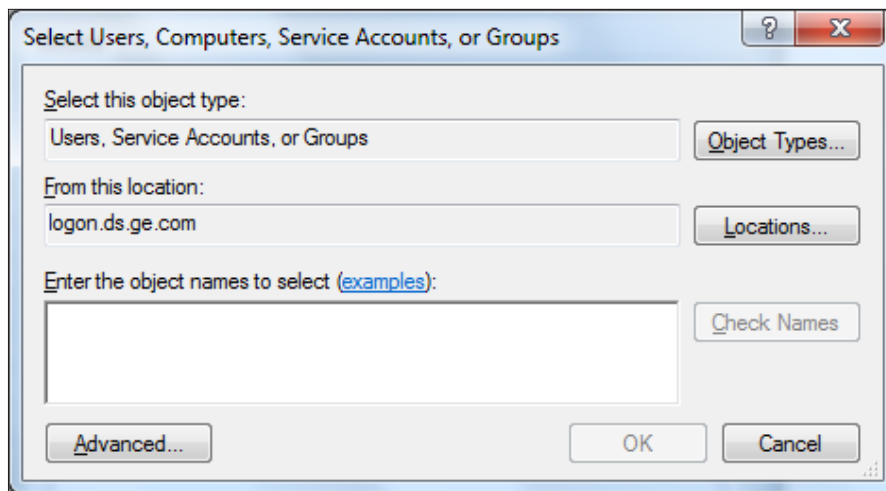

Figure 164 - Select Users, Computer, Service Accounts, or Groups
4. Click Add and Figure 164 appears.